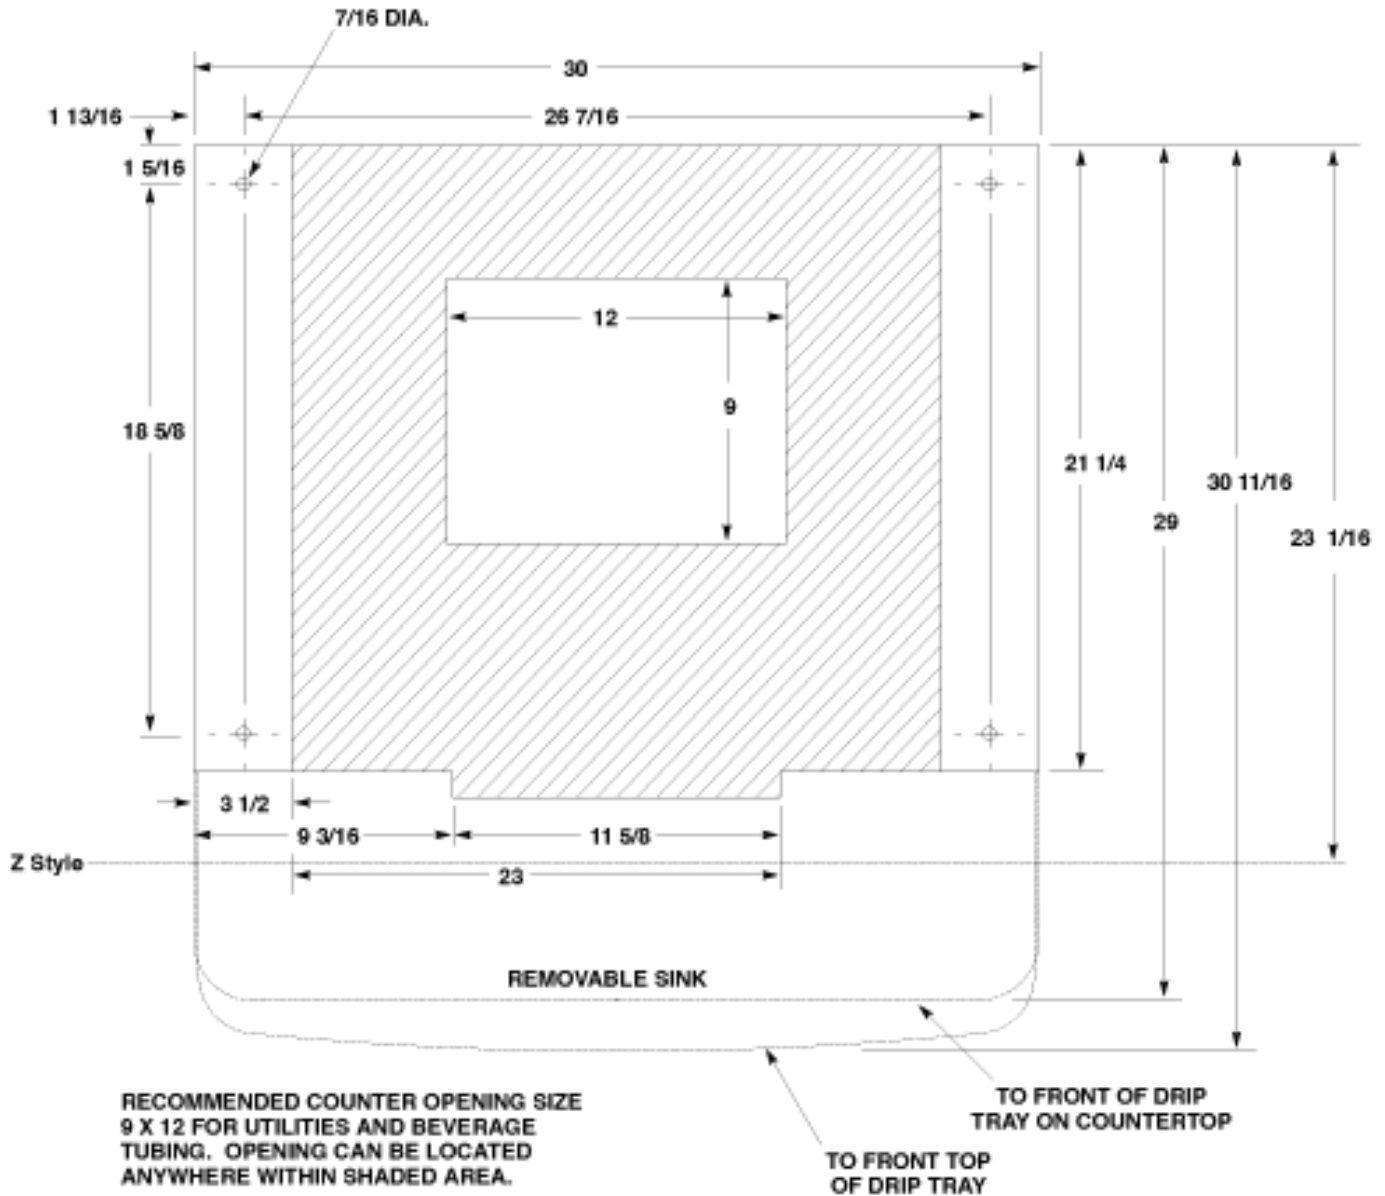

Figure 3. Mounting Template
The ice dispenser must be sealed to the counter. The MOUNTING TEMPLATE (see Figure 3) indicates where openings can be cut in the counter. Locate the desired position for the dispenser, then mark the outline dimensions on the counter using the MOUNTING TEMPLATE. Cut openings in the counter. Rotate the line support bracket, located under base, to the up position and route all the lines below the bracket.
2. The beverage tubes, drain tube and power cord are routed through the large opening in the bottom of the unit. See the MOUNTING TEMPLATE (see Figure 3), for locating the required clearance hole in the counter for these utility lines.